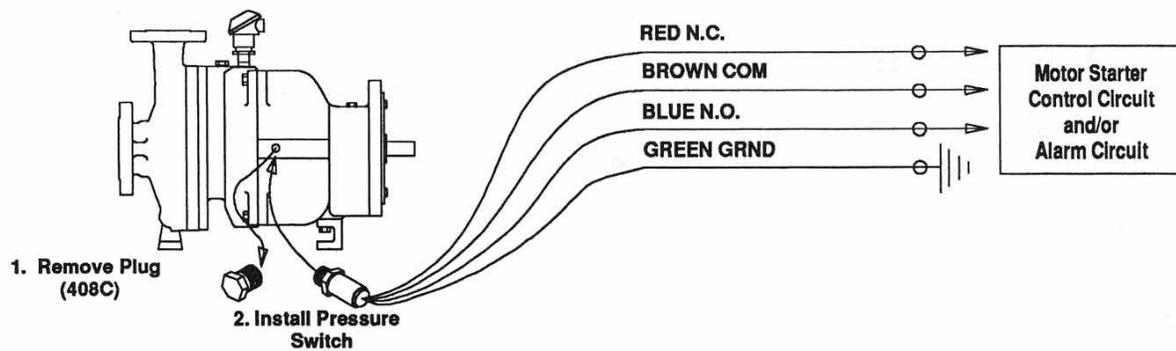

Figure 2
1. Remove 1/4" NPT pressure switch plug (408C) from bearing frame bell housing (Fig. 2).
4. Wire switch to customer supplied monitoring system for either normally open (N.O.) or normally closed (N.C.) as shown (Fig. 2).